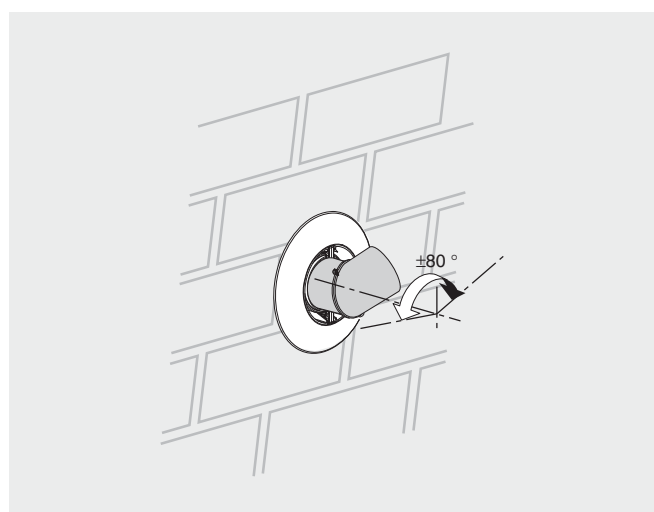

Fig. 13
- ▶ The entire termination can now be rotated left or right  $\pm 40^\circ$  to redirect the plume (→ Fig. 13).